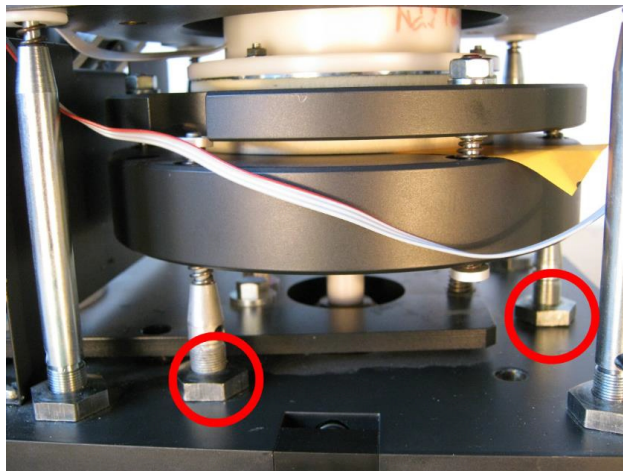

Figure 8: Three screws for setting of holder position
2. Locate three screws according to Fig. 8 (only two are marked). First loose the nuts and then try to turn with three screws to adjust proper position of the holder. **Do not** forget to tighten the screws after adjustment.